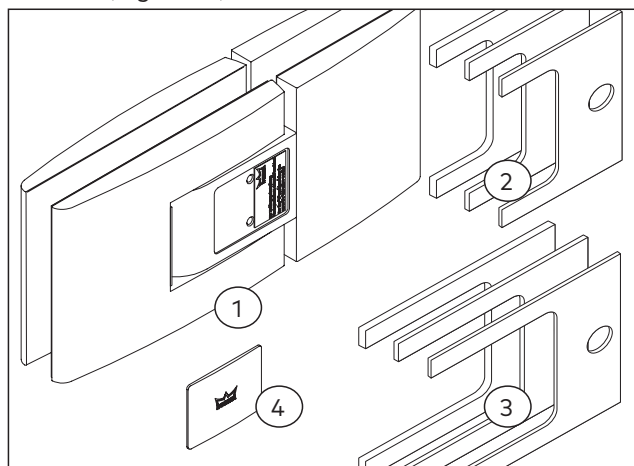

Fig. 12 Scope of delivery of the glass to glass mounting
- ▶ 2 x double-action hinge (Fig. 12/ 1)
- ▶ Side panel gaskets each 4 x in 3 different thicknesses: 1 mm, 2 mm, 3 mm (Fig. 12/ 2)
- ▶ Glass door leaf gaskets each 4 x with 3 various thicknesses: 1 mm, 2 mm, 3 mm (Fig. 12/ 3)
- ▶ 12 x cover cap in 3 different colors (Fig. 12/ 4)